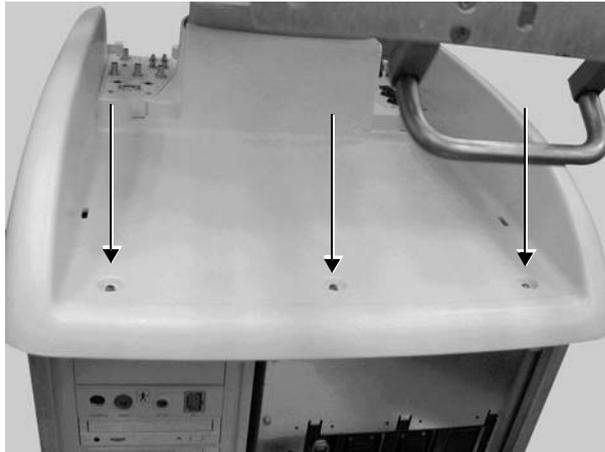

Figure 8-5 Top Cover Screws (Lower Section)
- 2) Fasten the front cover with the three screws at the edge of the top cover, as shown in Figure 8-5, above.
- 4) Insert and screw the three screws located at the top edge of the top cover, shown in Figure 8-5 on page 8-6.